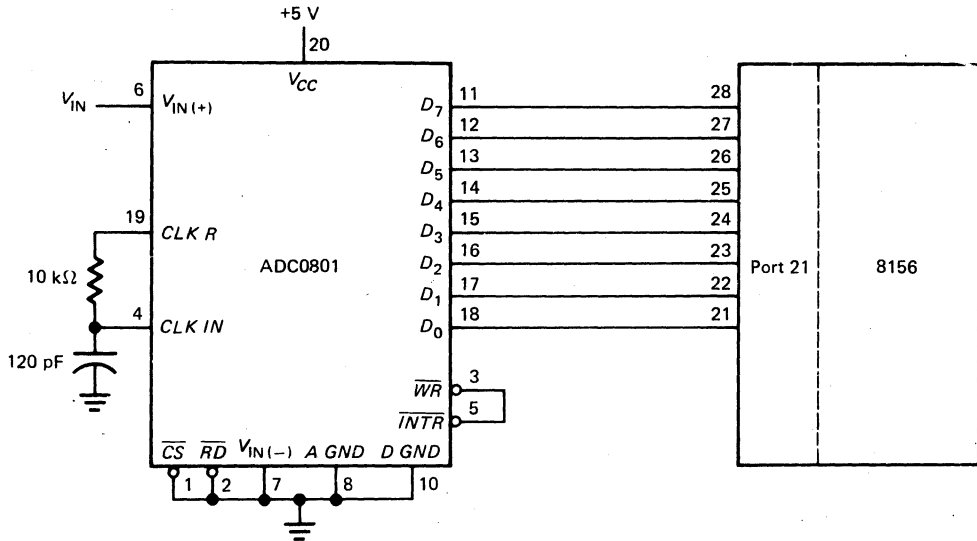

Fig. 16-34
- 16-12. The digital output in Fig. 16-34 is updated to BEH at the end of a conversion. What is the analog input?